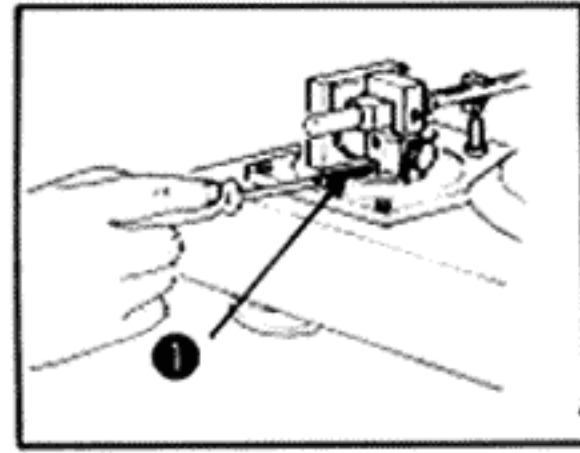

Fig. 1
### 1. Unpacking and setting up (Figs. 1, 2, 3, 4)
2. Unscrew 7 shipping screws ( ❶ - ❷ ) off as shown in Fig. 1 & 3.